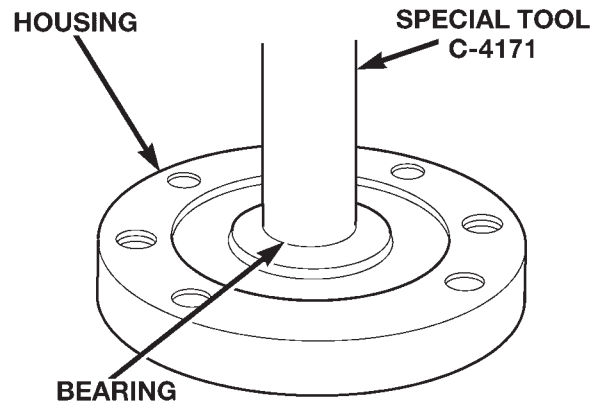

Fig. 6 Pilot Bearing Installation
- (1) Install new pilot bearing with hammer and tool handle C-4171 (Fig. 6). Seat bearing flush with lower